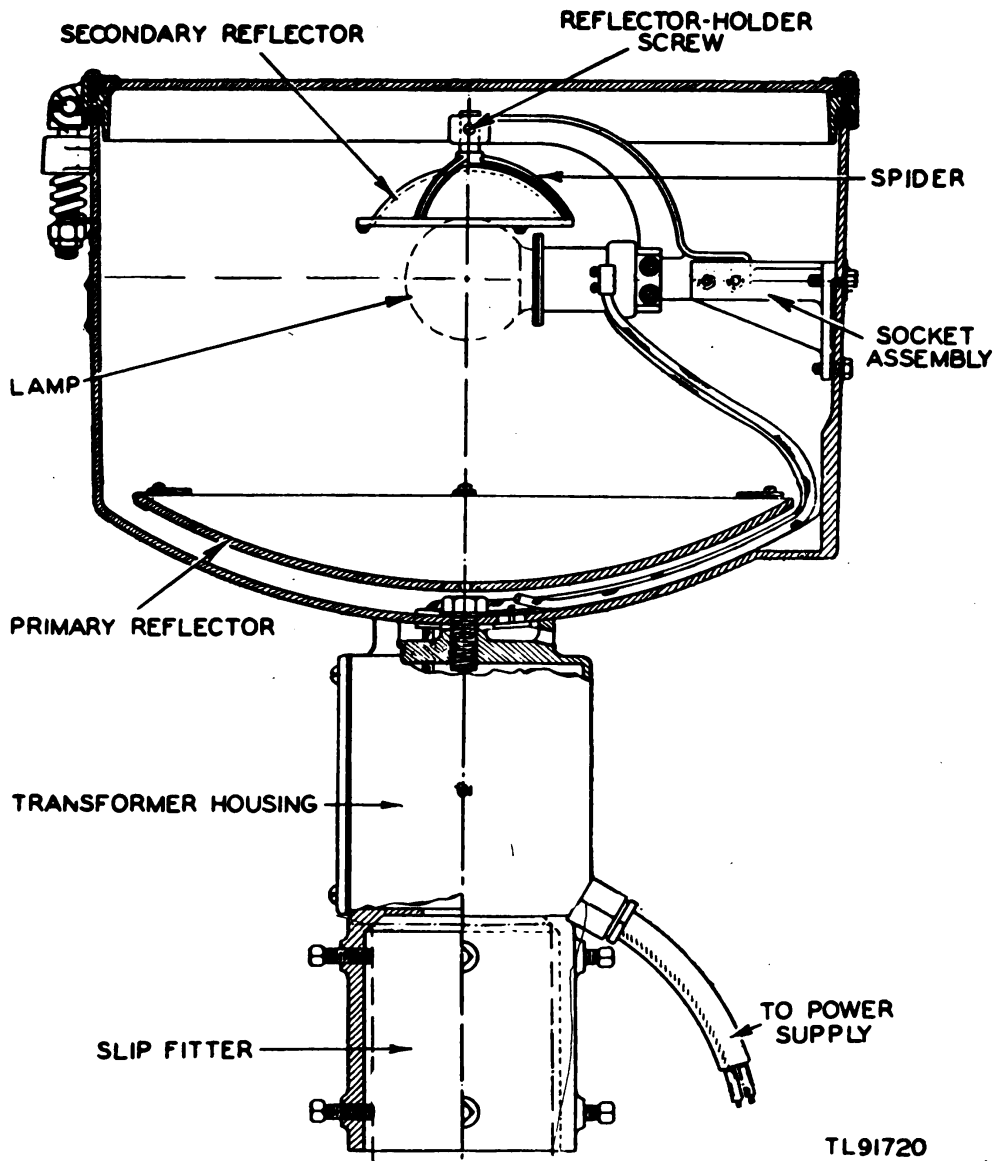

Figure 3. Ceiling Light Projector ML-121-E, general assembly.
a. LAMP (figs. 3 and 4). The lamp used with Ceiling Light Projector ML-121-(\*) is a 420-watt, 12-volt, 35-ampere airplane headlight lamp with a G-25 bulb and a mogul prefocus base. The maximum over-all length of the lamp is  $5\frac{3}{16}$  inches. During manufacture the lamp filament is located in the correct focal position with respect to the prefocus base. Each projector is furnished with two lamps.
b. PRIMARY REFLECTOR (figs. 3 and 4). The primary reflector is a parabolic mirror constructed of silvered, high-transmission glass which does not crack when it is subjected to repeated heating and cooling. The primary reflector is about  $16\frac{3}{4}$  inches in diameter and has a focal length of  $7\frac{7}{8}$  inches. It is mounted on felt-covered bosses and is held securely to the bottom of the drum by screws, lockwashers, and clips. A  $\frac{1}{4}$ -inch drainage hole is located in the center of the primary reflector.
c. SECONDARY REFLECTOR (figs. 3 and 4). (1) *General.* The secondary reflector is a 5-inch, silvered-glass mirror. It is spherical in shape and has a radius of  $2\frac{3}{4}$  inches and a face diameter of  $4\frac{1}{2}$  inches. The reflector does not crack when subjected to repeated heating and cooling.
screws. A fillister-head machine screw secures the spider to an overhanging bracket so that the filament of the lamp coincides with the focal point of the reflector. (See fig. 3.)
d. **SOCKET ASSEMBLY** (figs. 3 and 4). The socket assembly consists of a cast aluminum or cast-iron base (par. 4b) which rigidly supports a mogul prefocus socket and the secondary reflector assembly. The socket assembly is so located that it supports the lamp at the focal point of the primary reflector and the radius point of the secondary reflector.